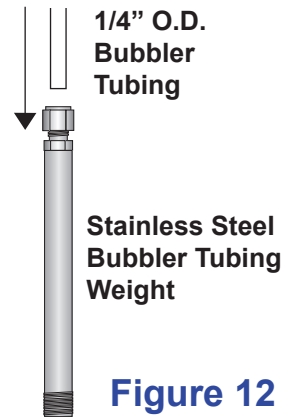

Figure 12
13. Insert one end of the 1/4" OD nylon bubbler tubing fully into the bubbler tubing weight's compression fitting (Figure 12) and tighten the compression fitting firmly, using two 8" wrenches.